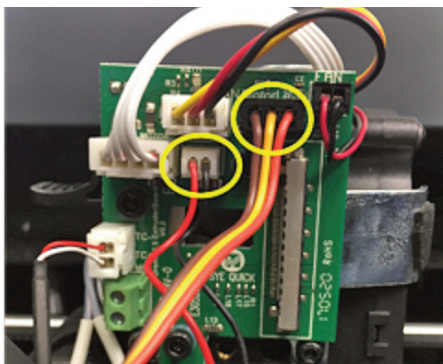

Figure 11: Disconnect encircled connectors.
- c. Reconnect both wire connectors to the extruder circuit board as shown in Figure 11.